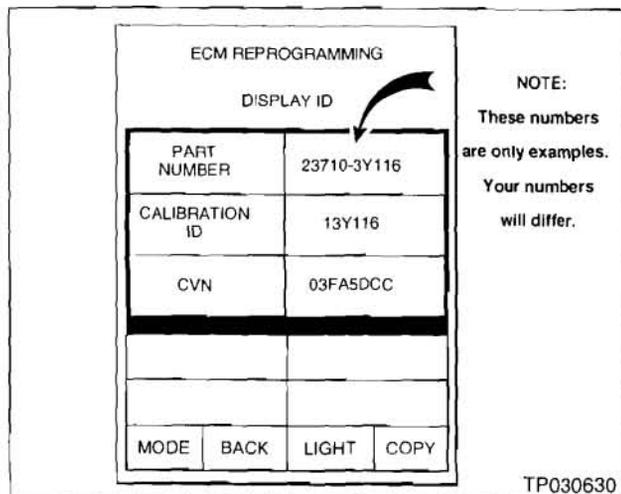

Figure A16
21. Press **CHECK ECM P/N** to “confirm” (take note of) the current ECM part number (see Figure A16).